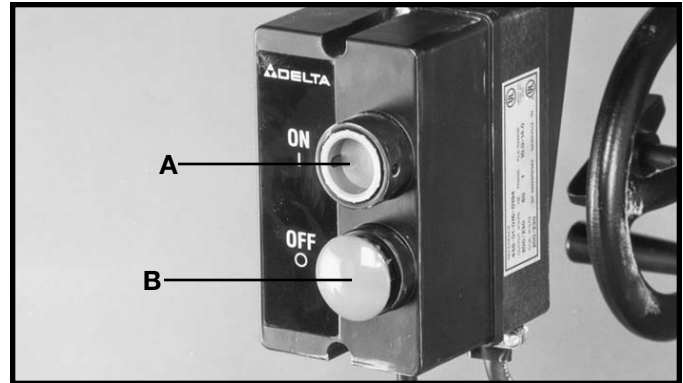

Fig. 39
To start the machine, push "ON" button (A) Fig. 39. To stop the machine, push "OFF" button (B).